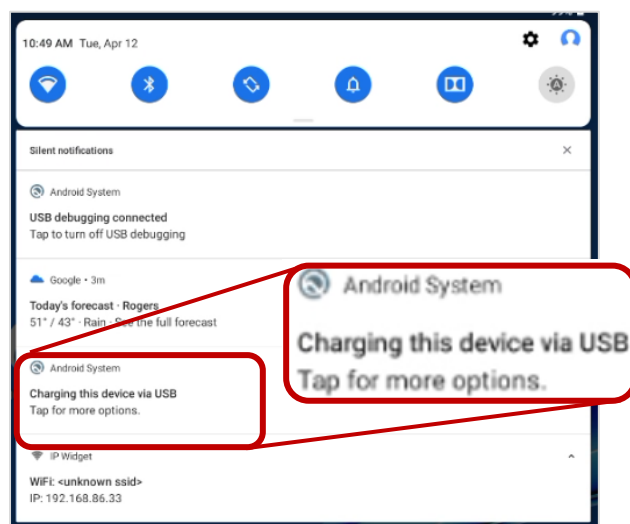

Figure 57
3. Swipe down from the top to display the **Silent Notifications** and locate the Android™ System notification about USB connection. Tap for other USB options (Figure 57).